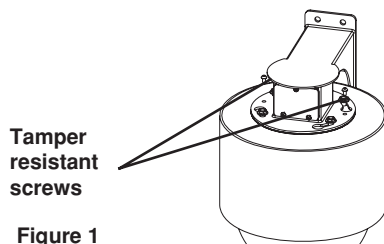

Figure 1
1. Remove the (2) tamper resistant screws on the top of the housing with the security tool provided in the installation packet (Figure 1, next column).